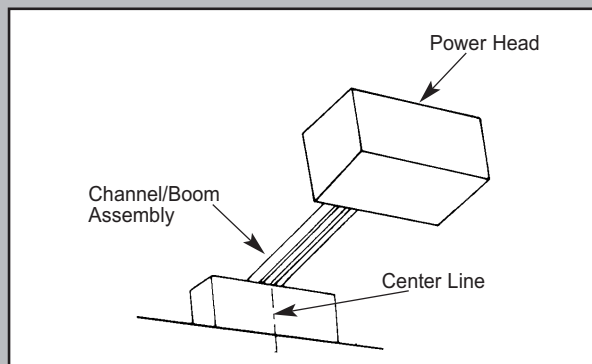

Fig. 2-5
5. Level boom assembly and power head (Fig. 2-5).